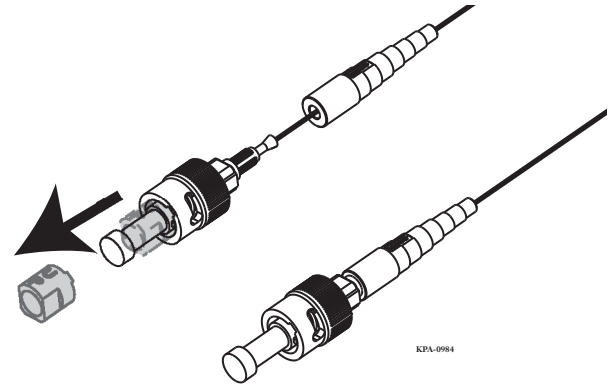

Figure 50 — ST-compatible Completed Connector Assembly
- Step 1:** Remove the black load adapter (Figure 50).